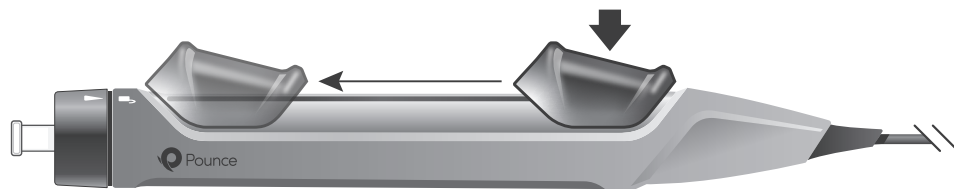

Figure 11
13. To unsheathe the funnel, depress slider button and retract to the most proximal position (see Figure 11).